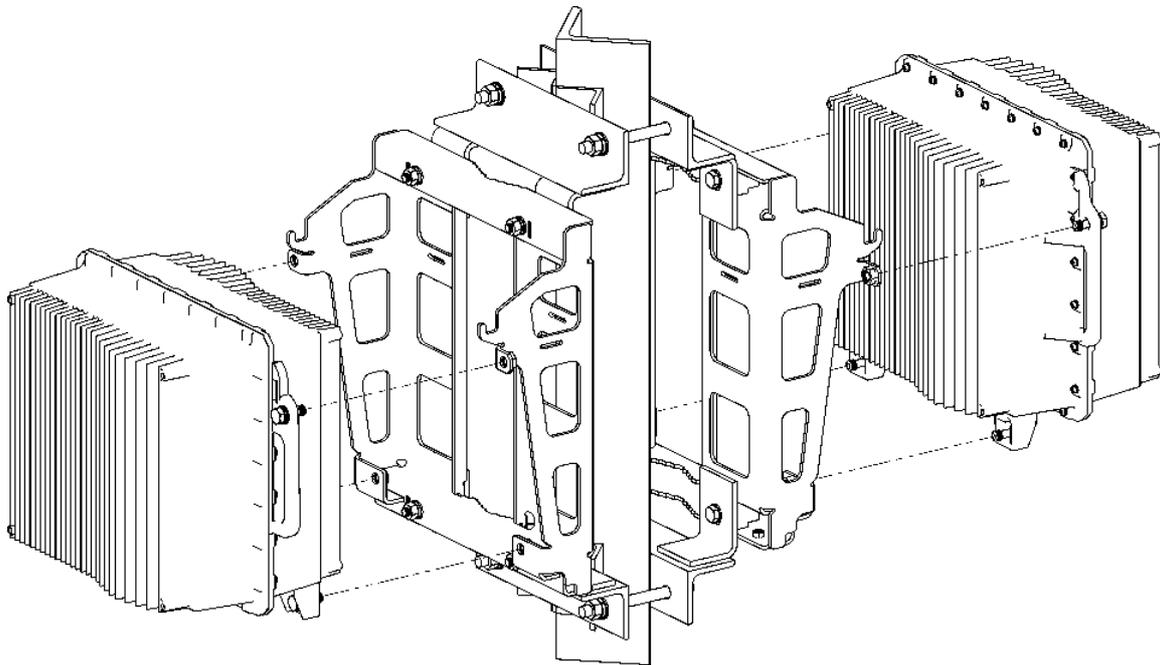
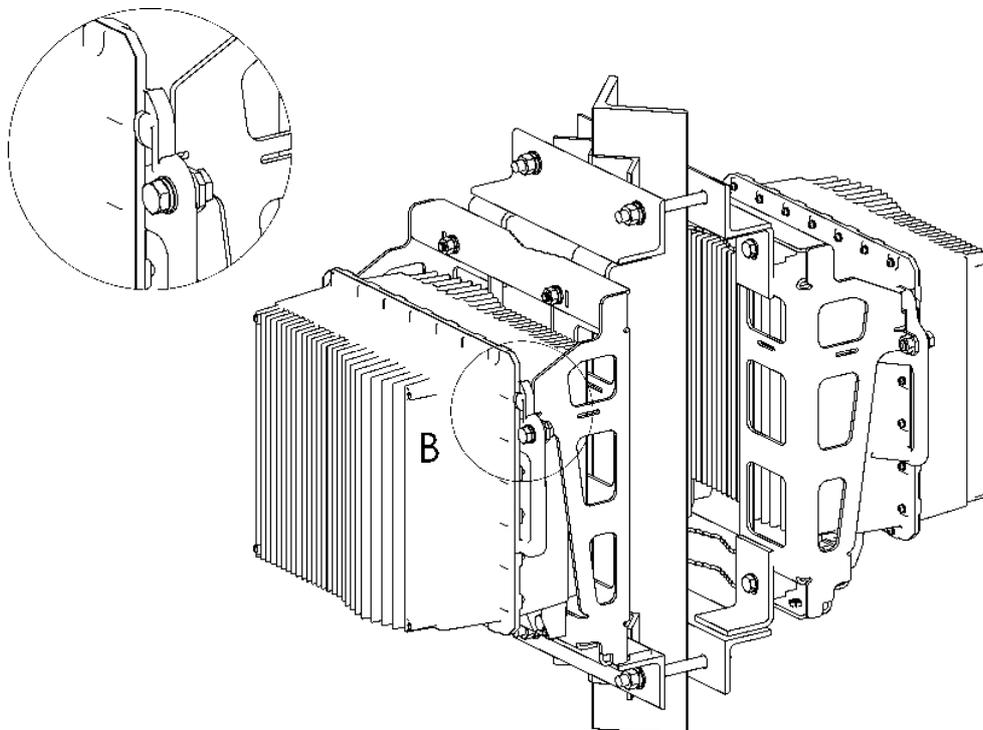

Figure 2-17: Mounting the ODUs on the Carriages
Figure 2-18: Two 4x2 ODUs Mounted on the L-shape Mast
- 5 Hang the ODUs on the carriages and tighten the M10x30 screws (Figure 2-17 and Figure 2-18).